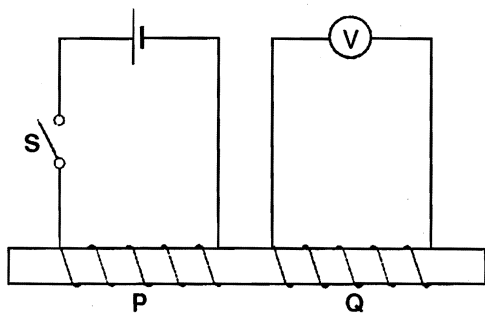

Fig. 6
- 63 (a) Fig. 6 shows two insulated copper coils, P and Q, mounted close together on a wooden rod. Coil P is connected to switch S and a battery; coil Q is connected to a sensitive voltmeter V.